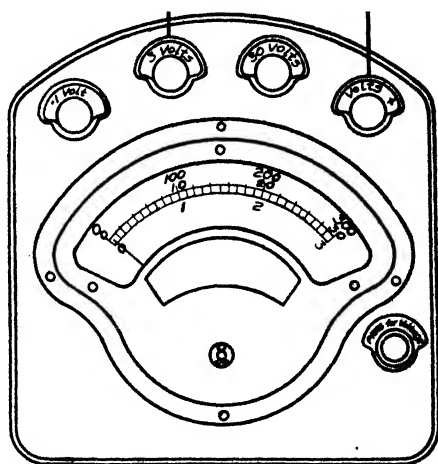

Fig. 215. Diagram Showing 3-Volt Scale Connected across a Circuit
*Voltage Tests.* When the instrument is used as a voltmeter it is necessary to select the proper scale for the circuit, and if there is any doubt it is well to start with the 30-volt scale. For testing individual cells of the storage battery the 3-volt scale would naturally be used, while for testing the entire battery, the 30-volt scale would be the proper one to apply. The proper method of connecting the voltmeter to the circuit is shown by the diagrams, Figs. 215 and 216. It is necessary to connect the positive side of the meter